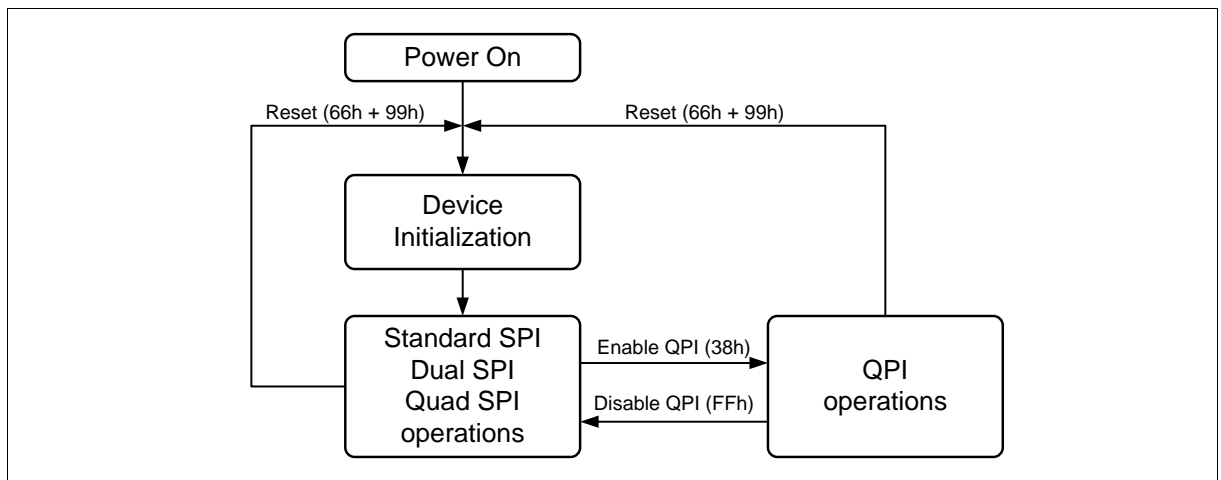

Figure 2 FM25Q04A Serial Flash Memory Operation Diagram
The FM25Q04A supports Quad Peripheral Interface (QPI) operations only when the device is switched from Standard/Dual/Quad SPI mode to QPI mode using the “Enable QPI (38h)” instruction. The typical SPI protocol requires that the byte-long instruction code being shifted into the device only via DI pin in eight serial clocks. The QPI mode utilizes all four DQ pins to input the instruction code, thus only two serial clocks are required. This can significantly reduce the SPI instruction overhead and improve system performance in an XIP environment. Standard/Dual/Quad SPI mode and QPI mode are exclusive. Only one mode can be active at any given time. “Enable QPI (38h)” and “Disable QPI (FFh)” instructions are used to switch between these two modes. Upon power-up or after a software reset using “Reset (99h)” instruction, the default state of the device is Standard/Dual/Quad SPI mode. To enable QPI mode, the non-volatile Quad Enable bit (QE) in Status Register-2 is required to be set. When using QPI instructions, the DI and DO pins become bidirectional DQ₀ and DQ₁, and the WP# and HOLD# pins become DQ₂ and DQ₃ respectively. See Figure 2 for the device operation modes.